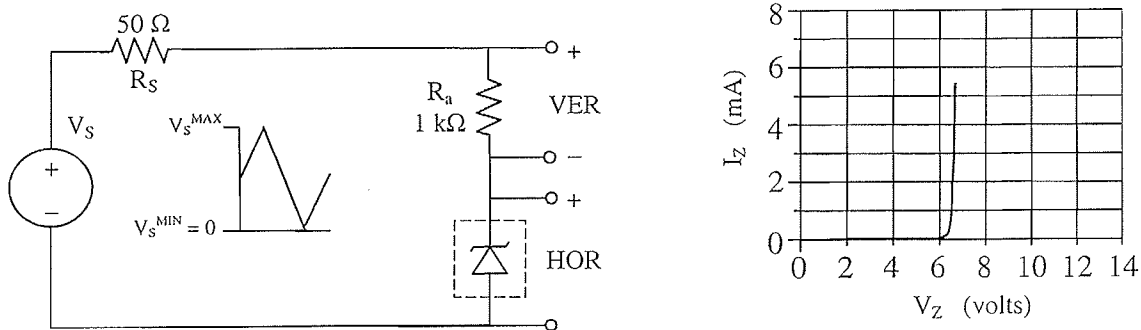

Fig. 2.3. A Test Set to Determine Reverse Breakdown Voltage of a Zener Diode.
- 1.2 Read Section 3.0. Complete the design of Figure 2.3, the zener diode test set.
The “zener diode” connecting the base to the emitter has a breakdown voltage of 6 to 8 volts. The avalanche breakdown voltage for the “diode” connecting the collector to the base is much greater than 8 volts. Therefore, the emitter may be identified with a test set as shown in Figure 2.3.